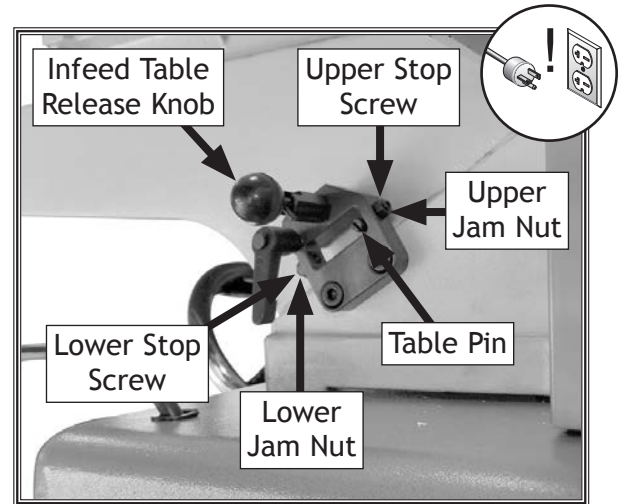

Figure 35. Positive-stop components for infeed table.
The infeed table has positive-stop screws (see **Figure 35**) that allow you to quickly adjust the infeed table between finish/final cuts and shaping/heavy cuts and the maximum depth of cut of 1/2" when rabbeting.
2. Loosen jam nuts on both stop screws (see **Figure 35**).
3. Raise table to minimum desired depth of cut, then tighten upper stop screw (see **Figure 35**) until it contacts table. Tighten jam nut to secure stop screw in position.
Note: If you need to lower the infeed table more than 1/8", then pull and hold the 1/8" depth stop release knob (see **Figure 35**) while lowering infeed table.